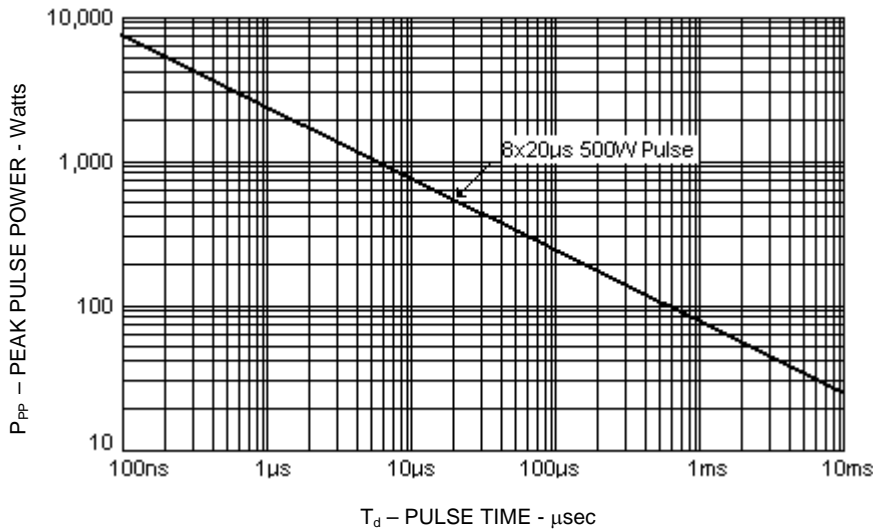

FIGURE 1
- Peak Pulse Power: 500 Watts (8/20 μ sec, Figure 1)